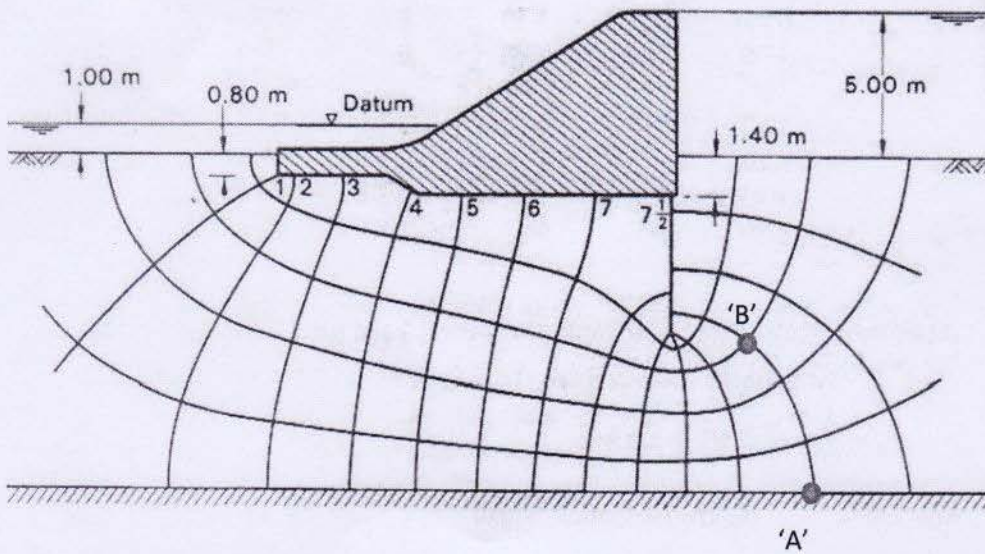

Fig. 5 (Question No. 6b)
- (b) A flownet for a dam with one cutoff wall is given in Fig. 5.